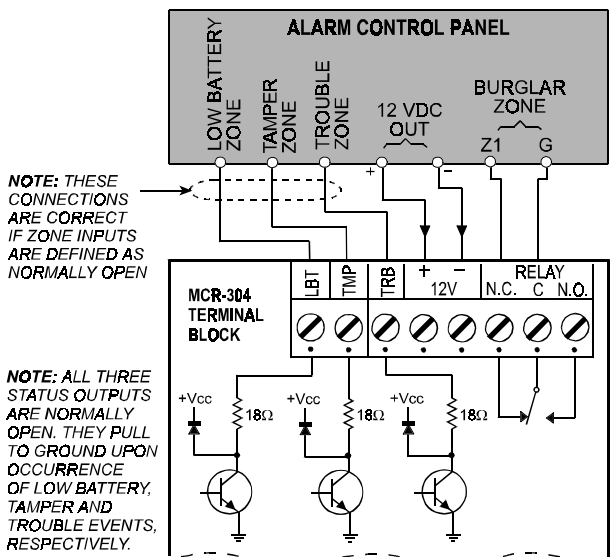

Figure 5. General Wiring Diagram
- If you wish to separate between status alerts, connect each status outputs of the MCR-304 (**TAMP**, **LBT** and **TRB**) to a separate zone input of the control panel, as shown in Figure 5.